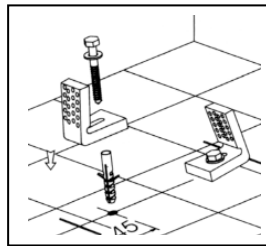
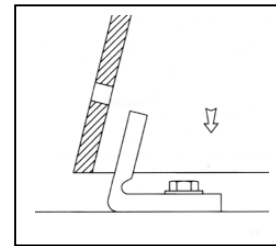

Fig 5
Fig 6
7) Remove the toilet pan and join the two marked points with a line. Mark two drilling holes on this line at a distance of 45mm from the outer edge of the toilet pan. Drill the two marked fastening holes and attach the supplied plastic brackets as shown in the drawing (see Fig 5). Ensure that the outer contour of the ceramic unit is parallel with the outer surface of the mounting bracket. Place the toilet pan back over the fastening brackets to check that it is in the correct position for installation (see Fig 6).